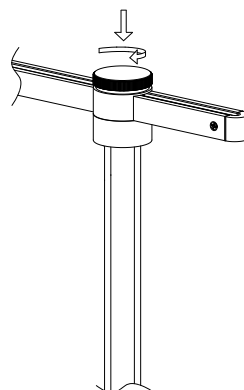

Fig. 4
3. Press the **Hanger Rod** up against the Hanger Hub and screw in the **Hanger Cap**. Be sure the brass contacts on the Hanger Hub are touching those on the Hanger Rod (Fig. 4). **NOTE:** Do not fully tighten.